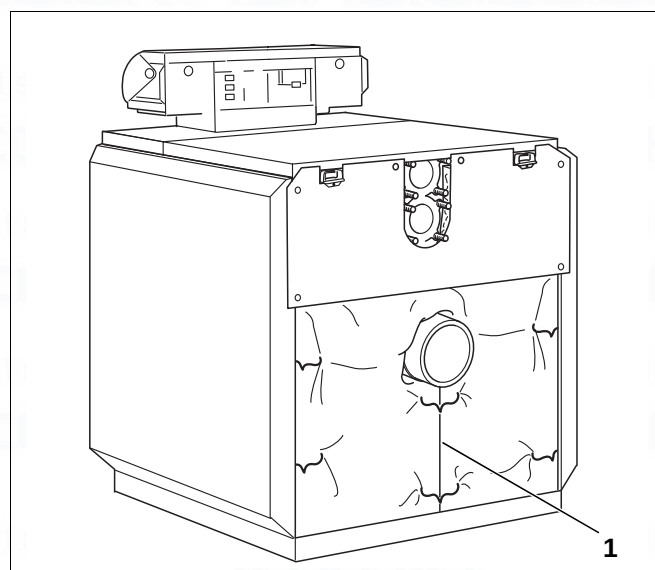

Fig. 55 Pulling the rear section lagging together
- ▶ Fold the rear section lagging down and pull together under the flue outlet using the tensioning spring (Fig. 55, [1]).